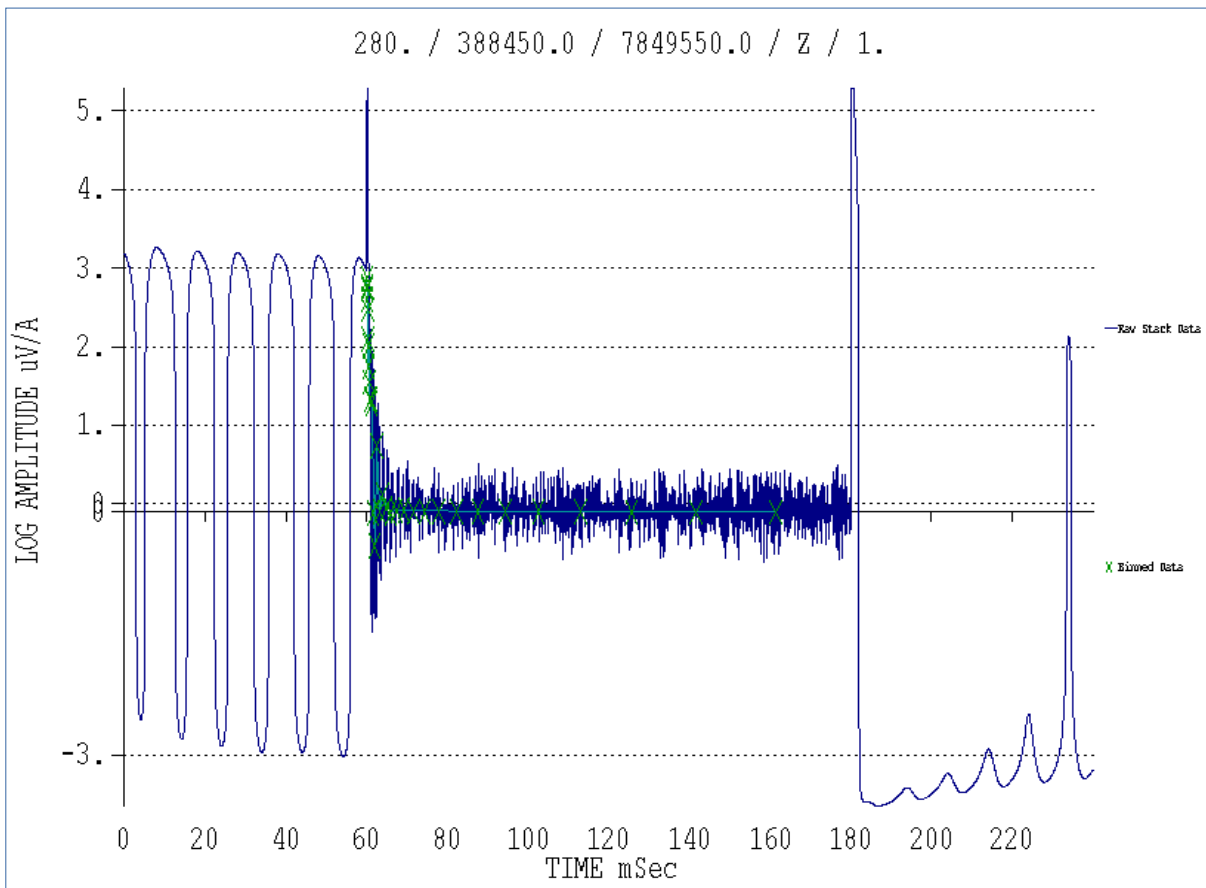

Figure 2: Example of a Smartem Stack file display with the stack data in blue and binned data in green
- Plot Smartem stack data along with equivalent binned reading. Arrow navigation controls and zoom features. Clicking on the plot returns the time and amplitude at that point. - see example in Fig 2. Modified to accept S24 format stack files.